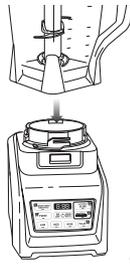

Fig. 2
**3** Align and lower the Pitcher onto the motor base. **(Fig. 2)** Handle should be aligned slightly to the right of the "LOCK" symbol on the motor base.
- 3 Place the Pro Extractor Blades™ onto the cup and tightly screw it on clockwise until you have a good seal. (Fig. 2)